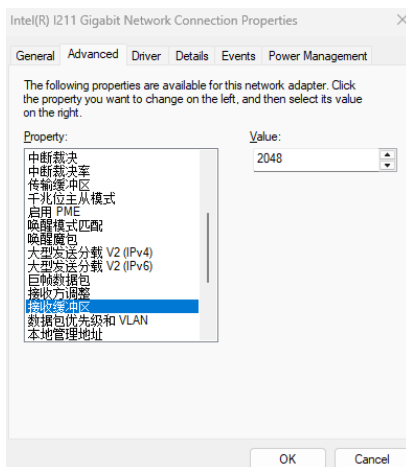

Figure 1.5.2 Receive Buffer Configuration
- 2 Set the receive buffer to its maximum value. As shown in Figure 1.5.2.